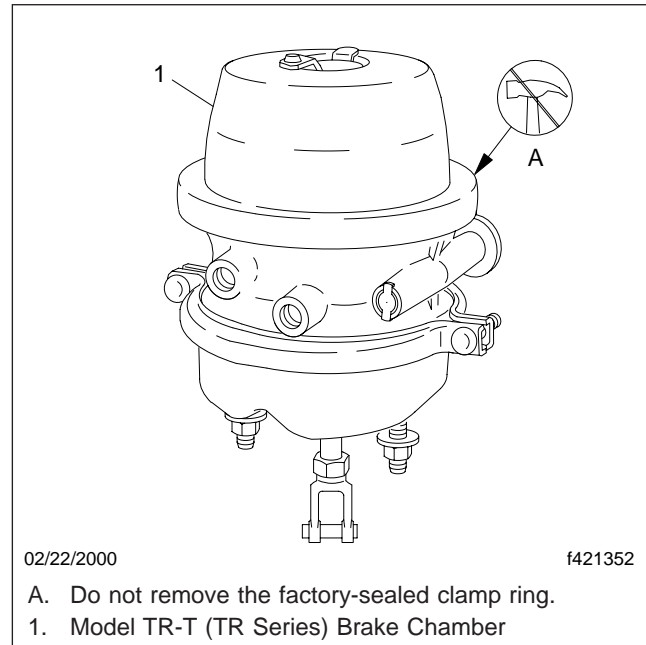

Fig. 1, MGM Brake Chamber
Do not loosen or remove the parking brake clamp ring for any purpose at any time. See Fig. 1. The parking/emergency brake section is not intended to be serviced. Serious injury or death may result from sudden release of the power spring.
Do not loosen or remove the parking brake clamp ring for any purpose at any time. See **Fig. 1**. The parking/emergency brake section is not intended to be serviced. Serious injury or death may result from sudden release of the power spring.
- 3.2 Using soapy water, coat the service chamber clamp ring. Leakage is excessive if it produces a 1-inch (25-mm) bubble within 5 seconds. See **Fig. 1**. On Bendix service chambers, tighten the clamp ring enough to stop the leakage, but do not exceed the maximum torque limits in **Table 2**. Do not overtighten.